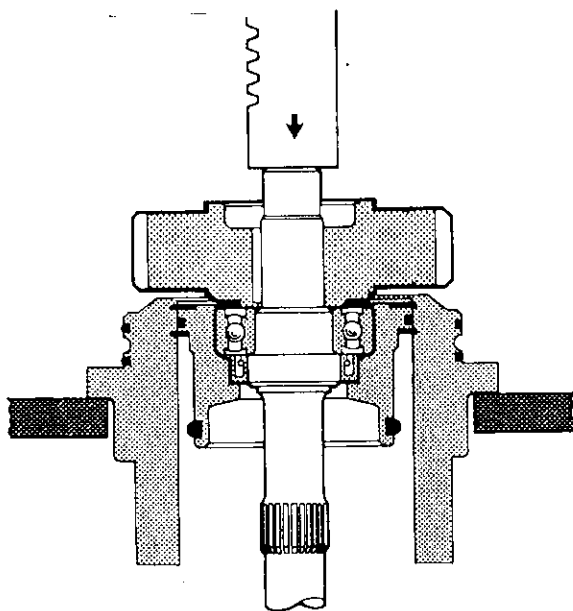

Figure 3.19
10. Install outer retaining ring (12) in drive housing (24).
11. Place drive housing (24) in arbor and press drive shaft (28), drive shaft bearing (10) and gear assembly (9) into bearing retainer (14). See Figure 3.19.